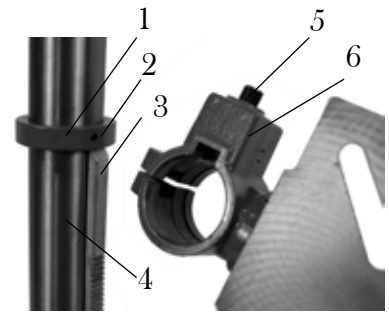

Fig. 3
1. Loosen set screw (2) in rack collar (1) and remove the collar.
2. Remove the rack (3) from the column (4).
3. Insert worm shaft (5) into the hole of the table support crank handle (6) from inside the table support. The worm shaft (5) should extend outside the housing about 1" (25 mm).
4. Insert the rack (3) into the geared groove of the table support (6). Make sure the worm shaft (5) on the inside of the table support is engaged with the teeth of the rack. The table support should sit at the center of the rack.
5. Slide the table support and rack assembly (3, 5, and 6) down together onto the column. Insert the bottom edge of the rack into the lip (7) of the column support. Hold in this position until step 6 is completed.
6. Place the collar (1) bevel side down over the rack. Tighten the set screw (2) with the 3 mm Allen wrench to hold the rack in position. (Fig. 3)
Note: Make sure there is enough clearance to allow the table to rotate around the column. The collar must sit loosely over rack and not angled on the column. To avoid column or collar damage, only tighten the set screw enough to keep collar in place (Fig. 3).